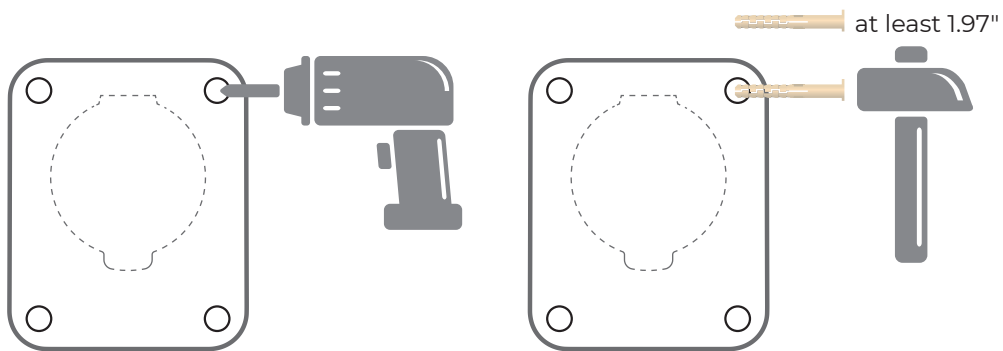

Fig. 5.8.2
3. Drill the mounting holes on the wall with a depth of at least 1.97". (See Fig. 5.8.2)